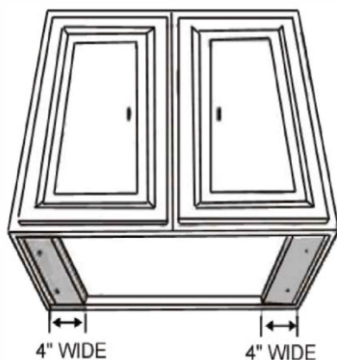

Figure 1
- For installing under the cabinet with recessed bottom, attach 4-inch wide wood filler strips (not provided) on each side. Refer to Figure 1.